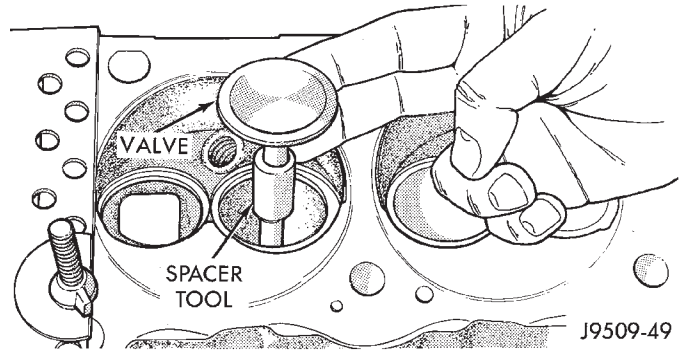

Fig. 50 Positioning Valve with Tool C-3973
- (1) Install Valve Guide Sleeve Tool C-3973 over valve stem and install valve (Fig. 50). The special sleeve places the valve at the correct height for checking with a dial indicator.